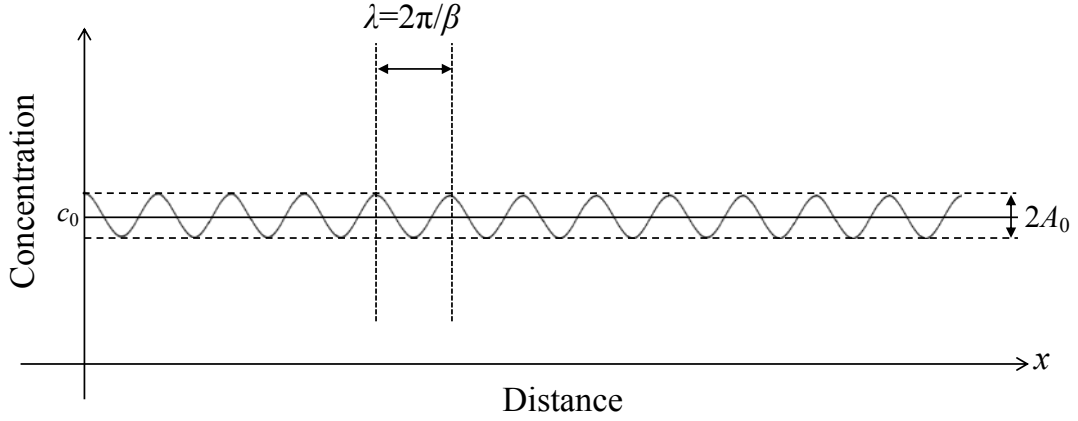

Figure 2
- (1) Considering the fact that equation ① is symmetric with respect to  $c = 0.5$ , obtain  $c_a$ , which is the solubility limit of B in  $\alpha_1$ , at temperature,  $T$ . Here, we assume  $c_a \ll 1$ .
- (2) At  $T=T_1$ , if small concentration fluctuations occur in a uniform solid solution with a concentration of B,  $c_b$ ,  $\Delta F^m$  decreases and a phase separation spontaneously proceeds. Answer the name of this type of phase separation process. Also, obtain the concentration range of B, where this type of phase separation process proceeds.
- (3) Obtain  $T_c$ , which is the critical temperature for the phase separation in this binary alloy.
- (4) If supersaturated solid solutions are within the two-phase co-existing concentration ranges other than those obtained in (2), and are to be phase separated, describe how the phase separation proceeds in around 60 words.
When the phase separation process described in (2) spontaneously proceeds, the effect of the increase in energies due to the local concentration gradients cannot be neglected, and thus such effect should be considered. As schematically shown in Figure 2, suppose that a small concentration fluctuation of  $c - c_0 = A_0 \cos \beta x$  is generated from the average concentration,  $c_0$ , along the  $x$ -direction, where  $\beta$  is a wavenumber and  $A_0$  is a constant. Then, the total free energy,  $F_{\text{total}}$ , of the system including the term of excess energies due to the local concentration gradients,  $K \left(\frac{\partial c}{\partial x}\right)^2$ , is expressed as the following equation ②,